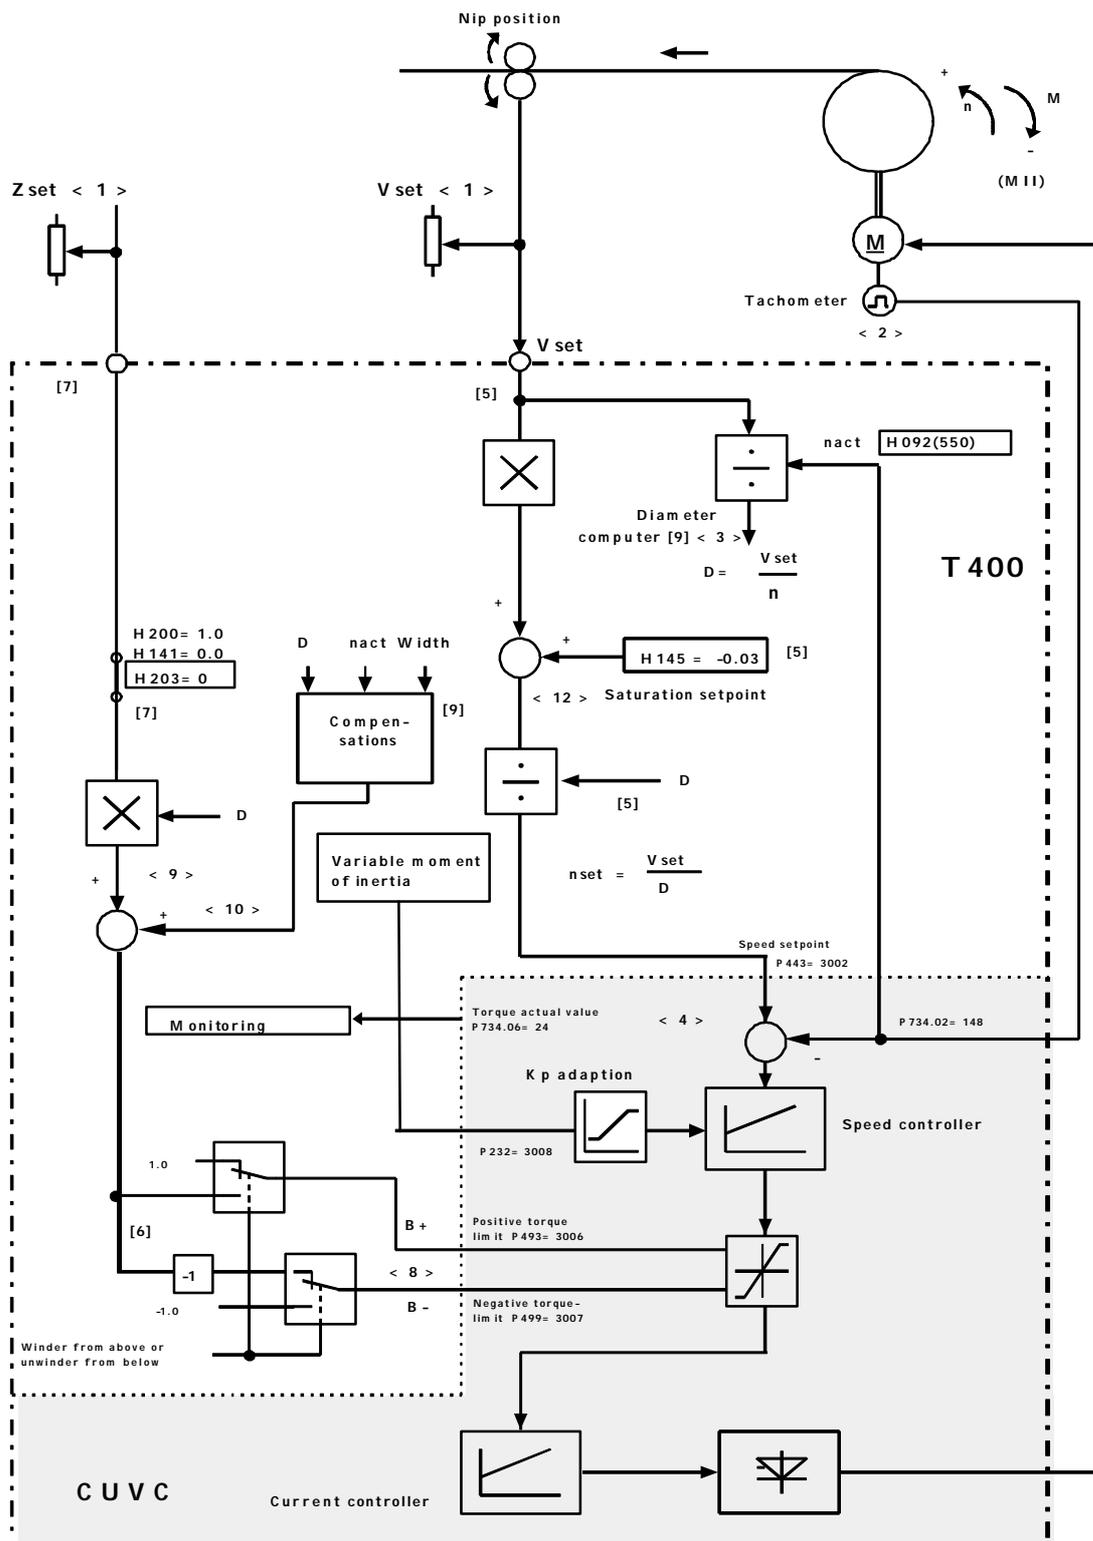

Fig. 4-6 Example for an unwind stand with indirect tension control
- Note** An example is shown in Fig. 4-6, as to how an unwinder with indirect tension control can be configured